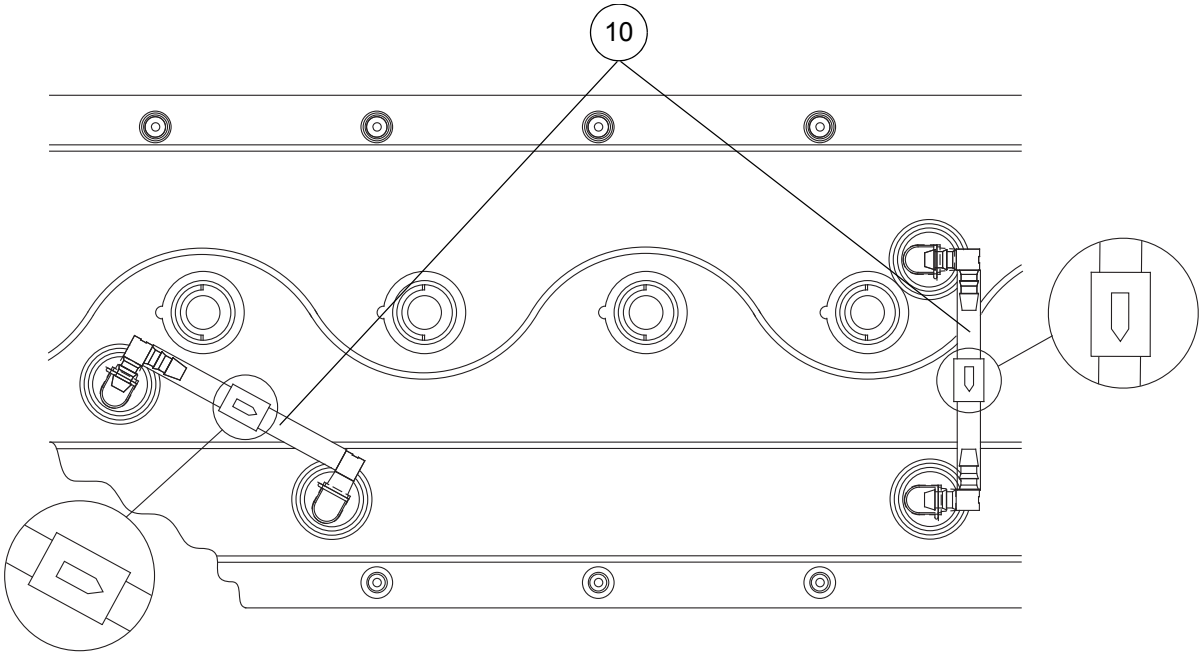

Figure 37 - Partial Non-Return Valve Assemblies
- 15.2 Locate the partial non-return valve assemblies (Fig 37, Item 10) on the inside at the foot end of the manifold assembly.
- 16.1 Connect the partial non-return valve assemblies (Fig 37, Item 10) to the manifold assembly. Make sure that the arrow mark on both valves points to the head end of the mattress.